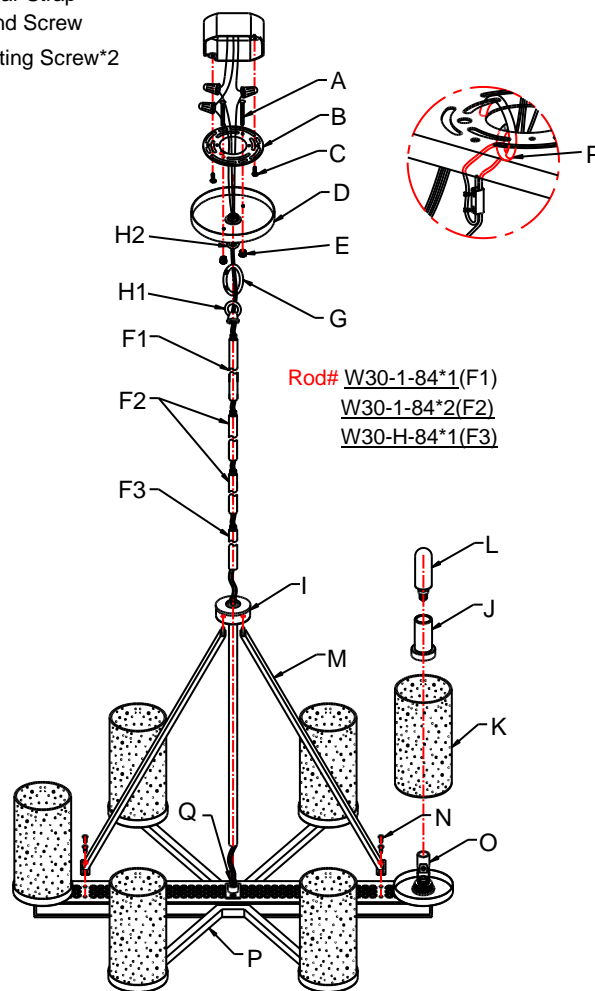

Fig. 3
CONNECTING THE WIRES (Fig. 3)
9. At this point, connect the electrical wires as shown in fig 3, making sure that all wire connectors are secured. If your outlet has a ground wire (green or bare copper), connect the fixture's ground wire to it. Otherwise, connect the fixture's ground wire directly to the circular strap (B) using the green screw provided.